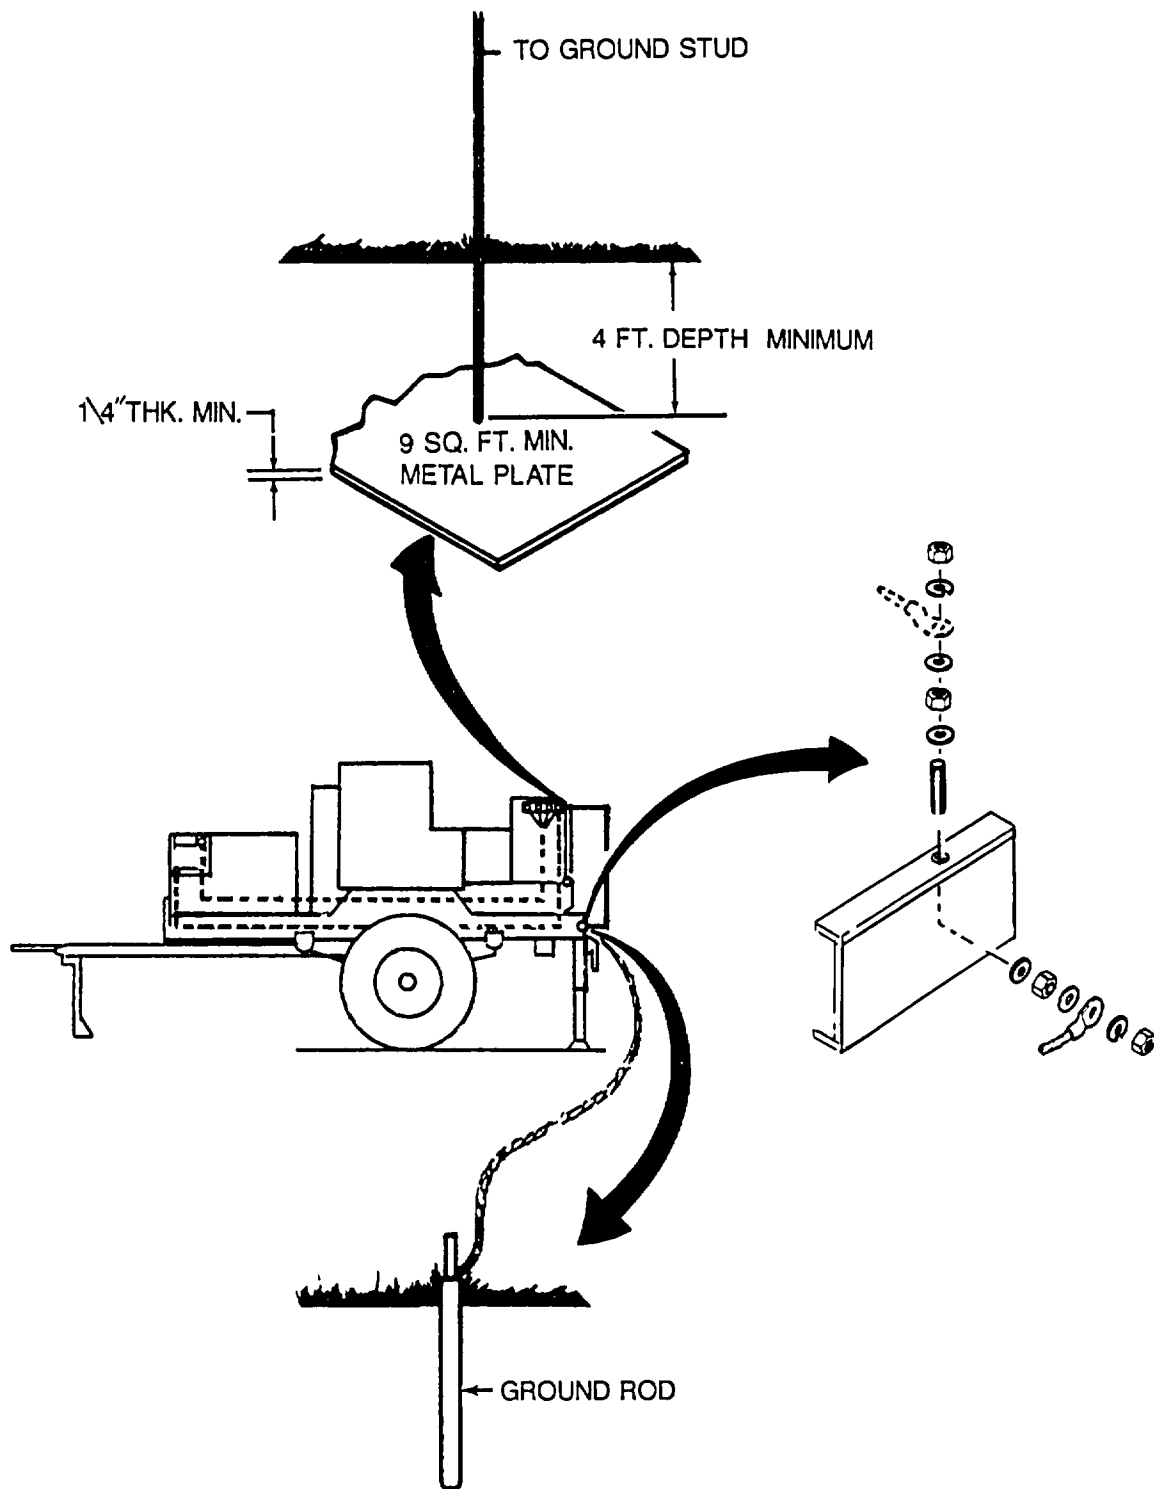

Figure 4-6. Grounding Trailer-Mounted, Generator-Set Powered, Air Conditioner.
The trailer-mounted, generator-set powered, air conditioner must be grounded prior to operation. The ground can be, in order of preference: (1) an underground metallic water system, (2) a driven metal rod, or (3) a buried metal plate (refer to figure 4-6). If the effectively grounded portion of the buried metallic water pipe is less than 10 feet due to insulated sections or joints, this preferred grounding method must be supplemented by an additional driven metal rod ground or a buried metal plate ground. A driven ground rod must have a minimum diameter of 5/8 inch of solid or 3/4 inch of pipe, and driven to a minimum depth of 8 feet. A buried metal ground plate must have a minimum area of 9 square feet, minimum thickness of 1/4 inch, and be buried to a minimum depth of 4 feet. The ground lead must be at least No. 6 AWG (American Wire Gauge) copper wire. If a driven ground rod is used, install and connect it as follows.